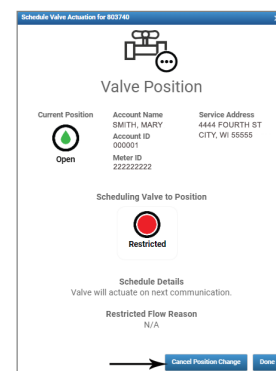

Figure 20: Cancel scheduled change
2. In the popup window (Figure 20) click **Cancel Position Change**.